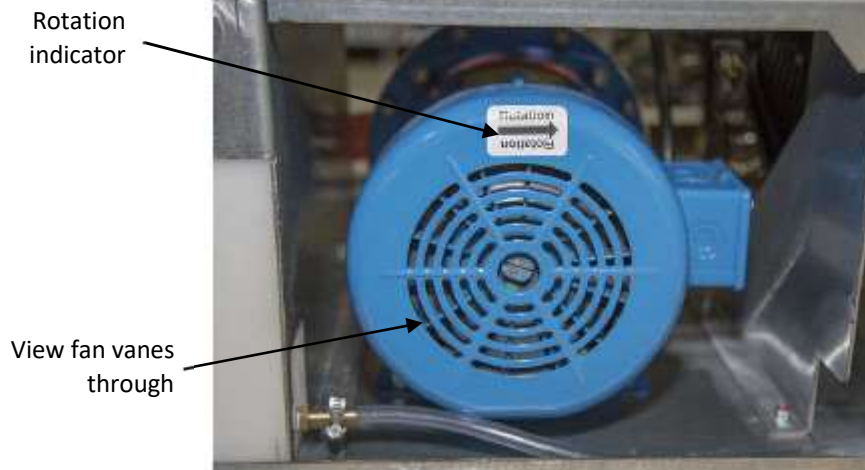

Figure 12: Motor Rotation Indicator
1. Look at the back of the pump motor to see the rotation arrow (see **Figure 12**).